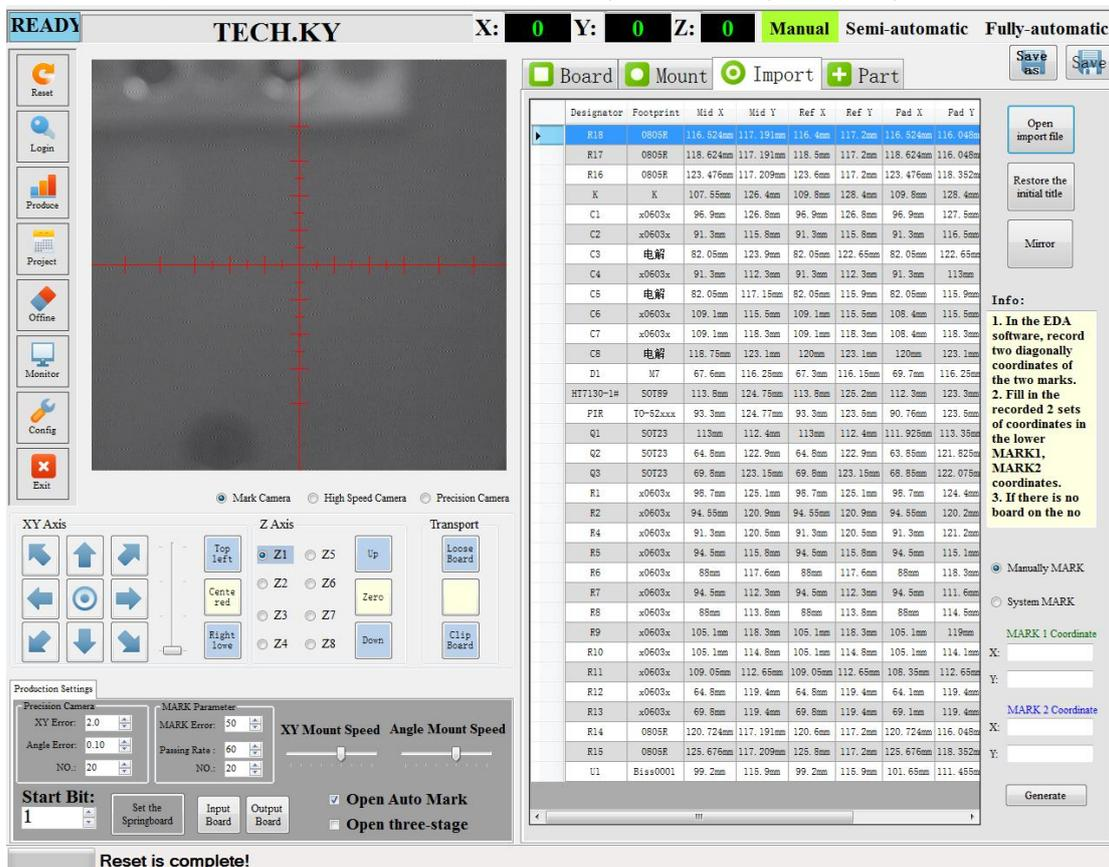

Figure 5-9-1
① Firstly export the Generates pick and place files from PCB drawing software, and copy it into the machine's IPC, (The imported file must be in .csv format)
② Click "Import" → click "Open import file" , click the file which has been copied into the IPC, and click "Open". (shown as Figure 5-9-1)